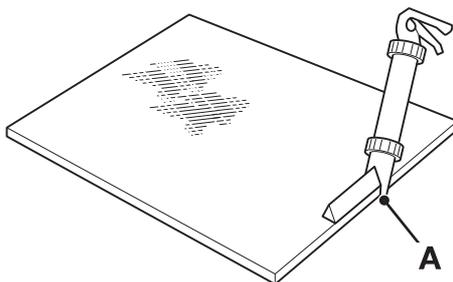

Fig 14.
- 6 Apply the pre-heated adhesive to the glass (do not start in a corner). Keep the nozzle guide **A** against the edge of the glass and make sure that the adhesive forms a continuous 'pyramid' shape. ⇒ Fig 14. \(□ B-32\)